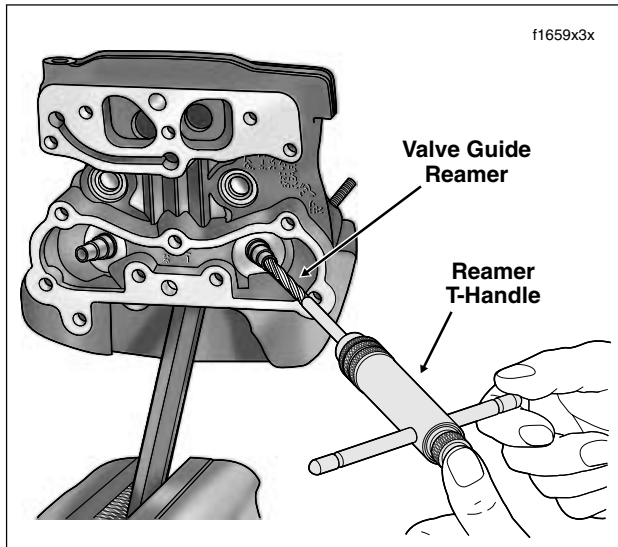

Figure 3-73. Ream Valve Guide Bore
- c. Placing thumb on drive socket of reamer T-handle, apply slight pressure on reamer while rotating in a clockwise direction. See Figure 3-73. Squirt additional lubricant onto reamer and into guide as necessary.